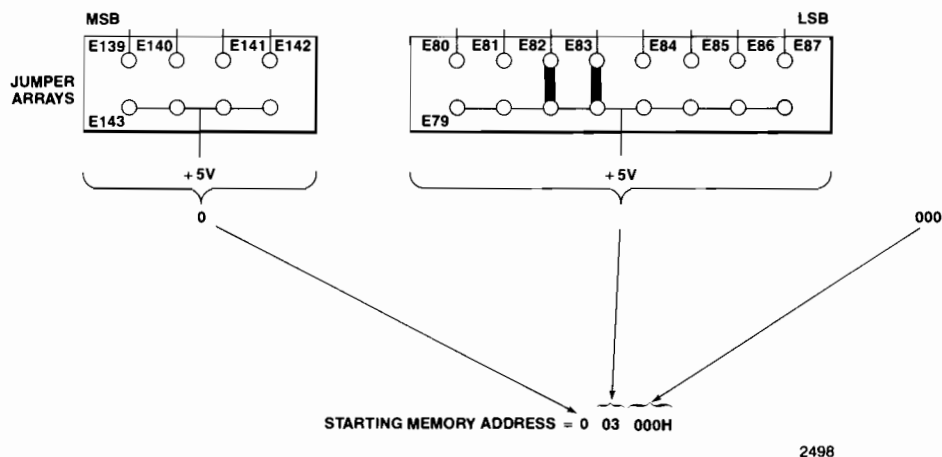

Figure B-3 The iSBC® 056 Board's Jumper Settings (Series IV Model 43X)
2. Ensure that the starting address of the iSBC 056 memory board is set to 192K (030000H). The jumpers settings are shown in Figure B-3; their locations are shown in Figure B-4.